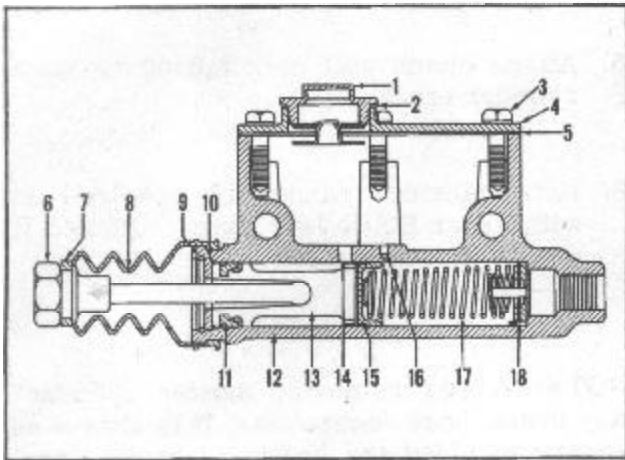

FIGURE 2
The piston (13), Figure 2, is returned to a released position much faster than the fluid returns into the master cylinder through the outlet.
2. Remove filler plug (1) Figure 2 and drain fluid.
3. Remove push rod guard strap (7) at push rod and remove push rod (6) and guard (8).